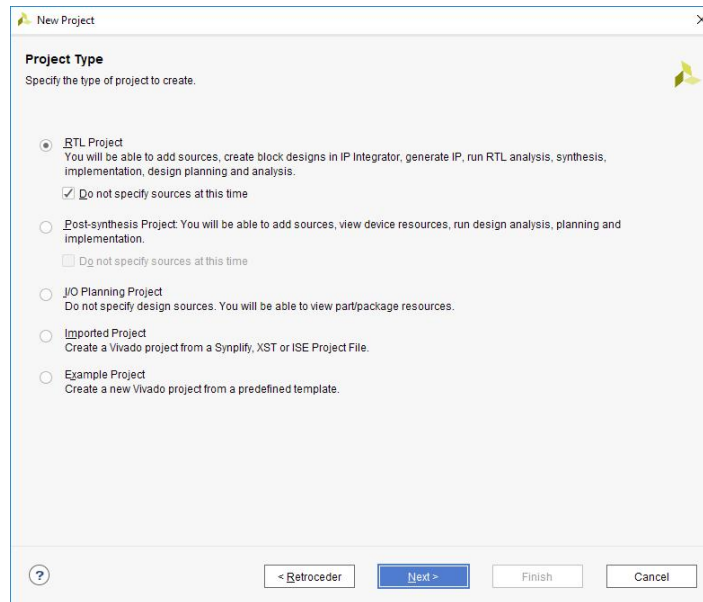

Figure 3
6. In the **Project Type** window select **RTL Project** and check the **Do not specify sources at this time** checkbox (Figure 3)